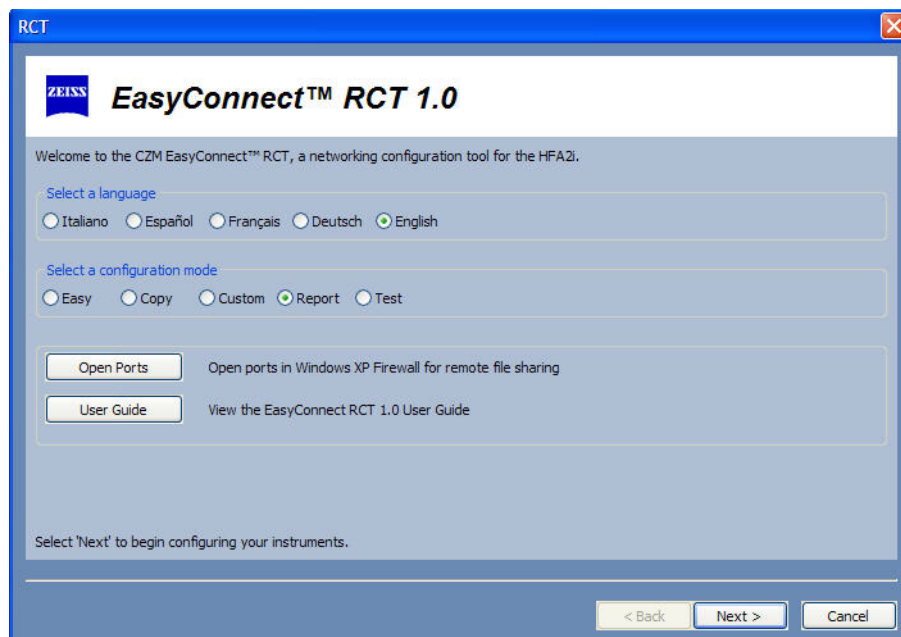

Figure G.36 Select Report Configuration Mode
- 1 Select REPORT from the SELECT A CONFIGURATION MODE radio buttons (Figure G.36) and then select NEXT to continue.